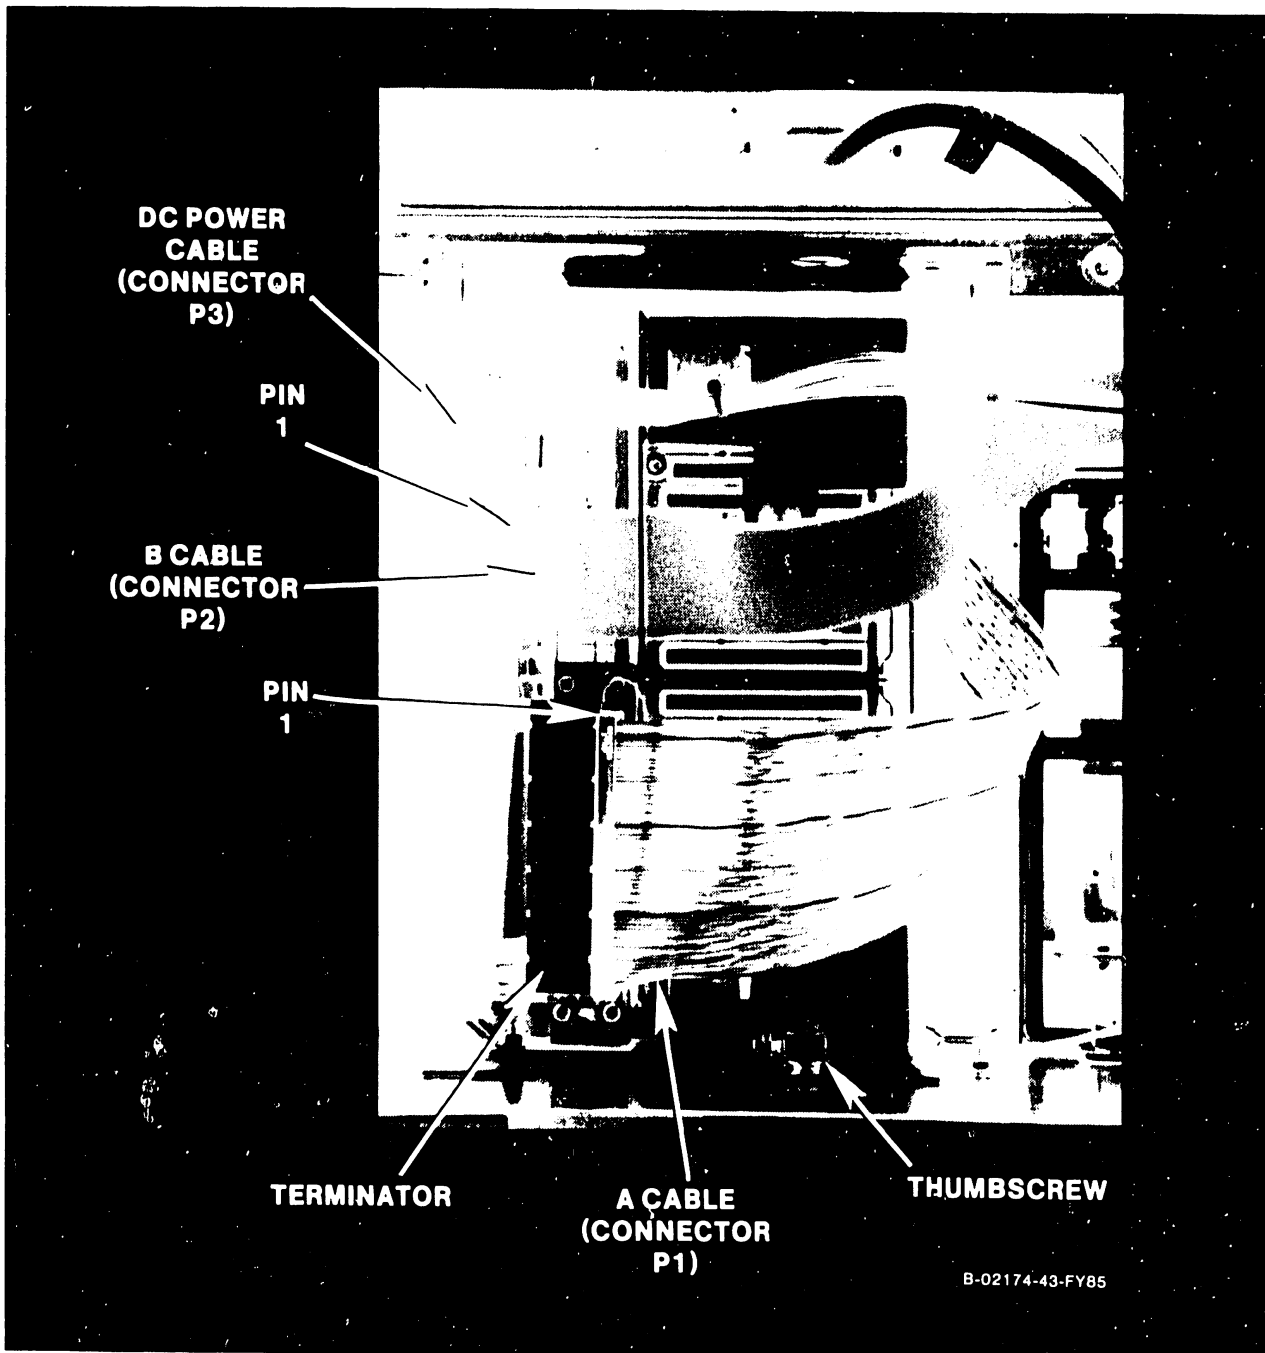

Figure 5-37. 76 Megabyte Disk Drive (Mounted View)
3. Make sure the drive has stopped turning, then remove the A and B signal, the dc power cables, and ground wire and from the front of the drive. (See figures 5-37 or 5-38.) Note the position of these cables for reinstallation.